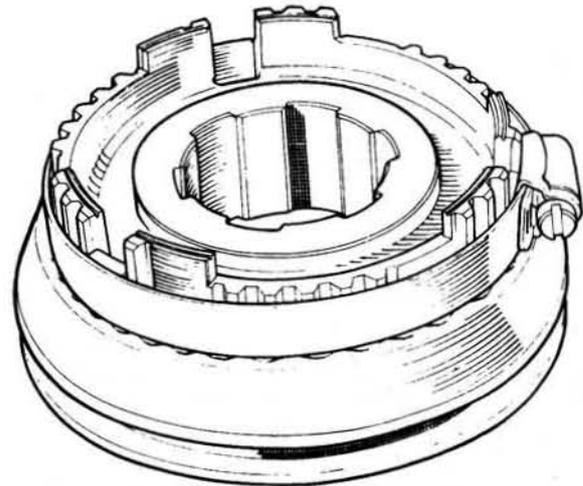

Fig.6.24. Use of a jubilee clip to compress the springs
- 5 Compress the springs with a large jubilee clip, a piston ring clamp is ideal, as shown in Fig.6.24. Depress the hub slightly and then push down the thrust members with a screwdriver until they engage the neutral groove in the operating sleeve.